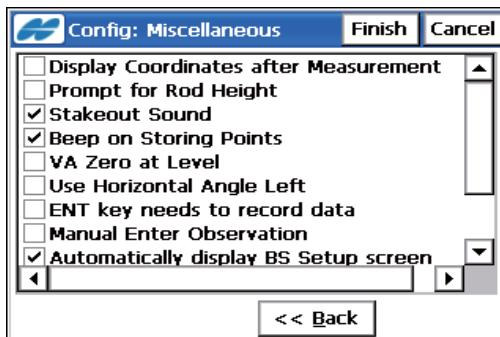

Figure 3-7. Miscellaneous
- **Next** – opens the **Miscellaneous** screen (Figure 3-7 on page 3-9).
The **Miscellaneous** screen is used to customize the user interface (Figure 3-7 on page 3-9):